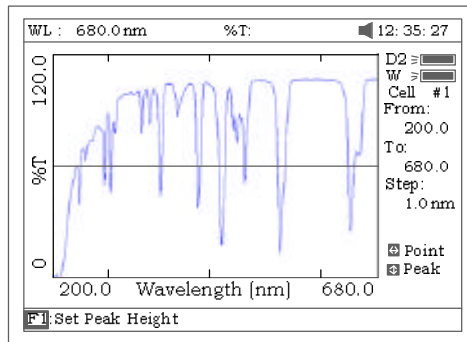

Fig 49
- 6 Press [F3] to search the Abs/%T value of the scan. There are two ways for you to search (Fig 49).